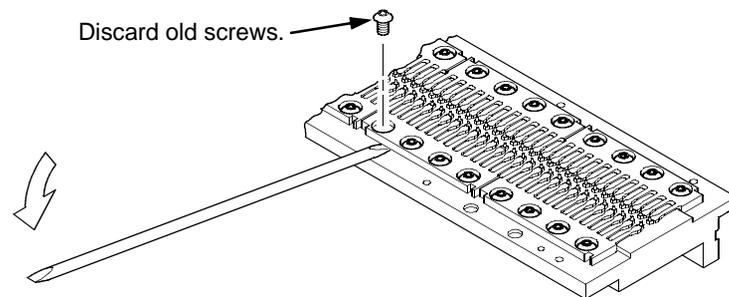

Figure 20. Removing a Hammer Spring Assembly from a Dual Hammer Bank
5. Remove the mounting screws from the old hammer spring assembly. (See Figure 20.)
6. Handling the hammer spring assembly by the mounting base only, gently pry up the base with the stick included in the replacement spring kit. (See Figure 20.)